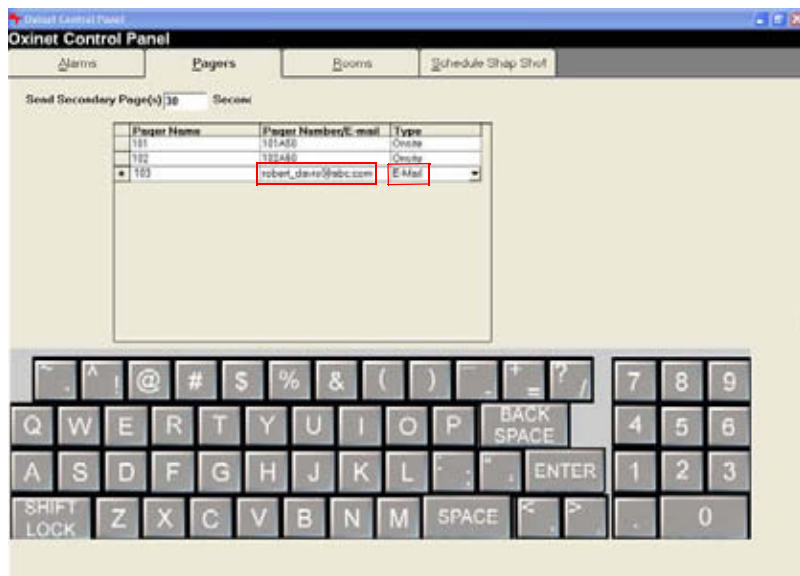

Figure 28: Pagers Menu — Entering Pager E-mail
- 3B** If the Oxinet III system is connected to a SMTP e-mail system on the hospital's intranet and the Oxinet III system is connected to that intranet, you can type an e-mail address instead, then change the *Type* to **E-Mail** as shown in Figure 28.